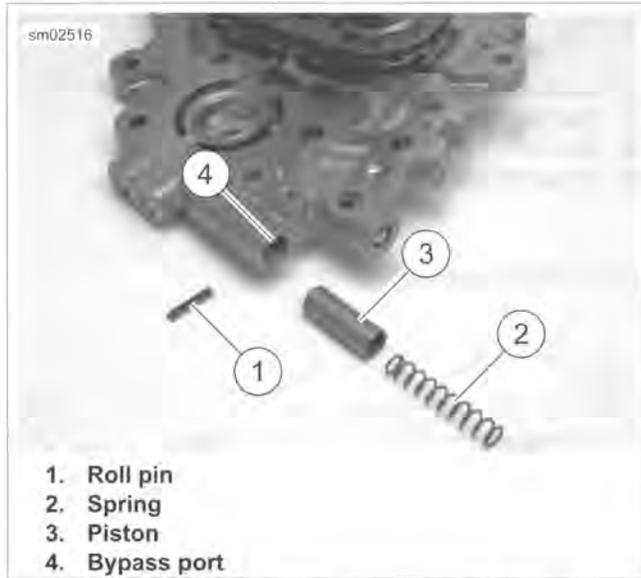

Figure 3-97. Oil Pressure Relief Valve Assembly
1. See Figure 3-97. Secure the cam support plate in a vise with soft jaws.
3. Use a 1/8 in punch to remove roll pin (1). Discard roll pin.
4. Remove spring (2) and piston (3) from bypass port.
2. See Figure 3-97. Lubricate piston (3) with SCREAMIN' EAGLE ASSEMBLY LUBE. Slide piston into bypass port of cam support plate with the open side facing outward.
3. Slide spring (2) into bypass port until seated in piston.
4. Start **new** roll pin (1) into hole in cam support plate. Compress spring using the blade of a small screwdriver.